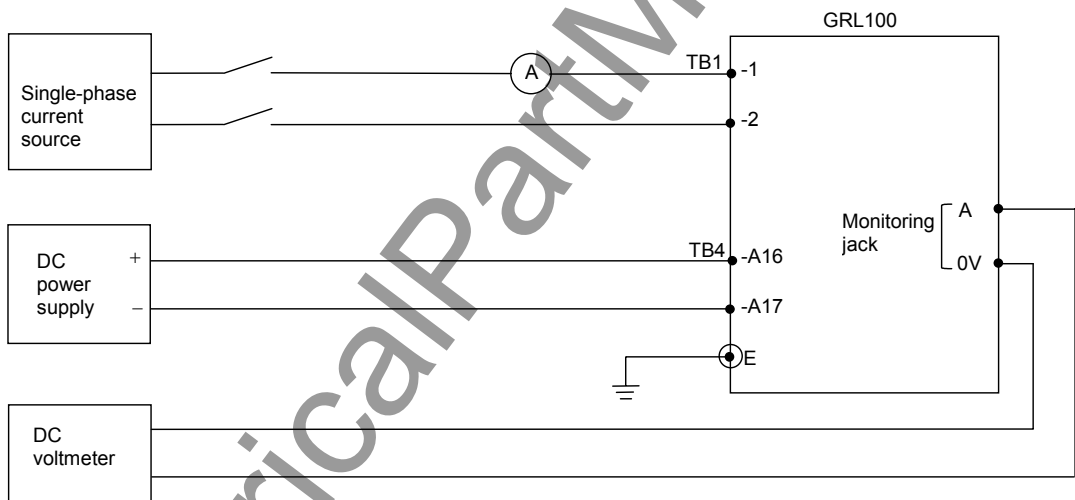

Figure 6.5.1.9 Testing Current Change Detection Element
- Apply single-phase rated voltage to terminals 17 and 18 as shown with broken lines in Figure 6.5.1.8 and set the scheme switch "3PH-VT" to "Line". The test can be performed taking the same steps as testing SYN1.
The overcurrent element is tested locally. The test circuit is shown in Figure 6.5.1.6(a).
The test circuit is shown in Figure 6.5.1.9.